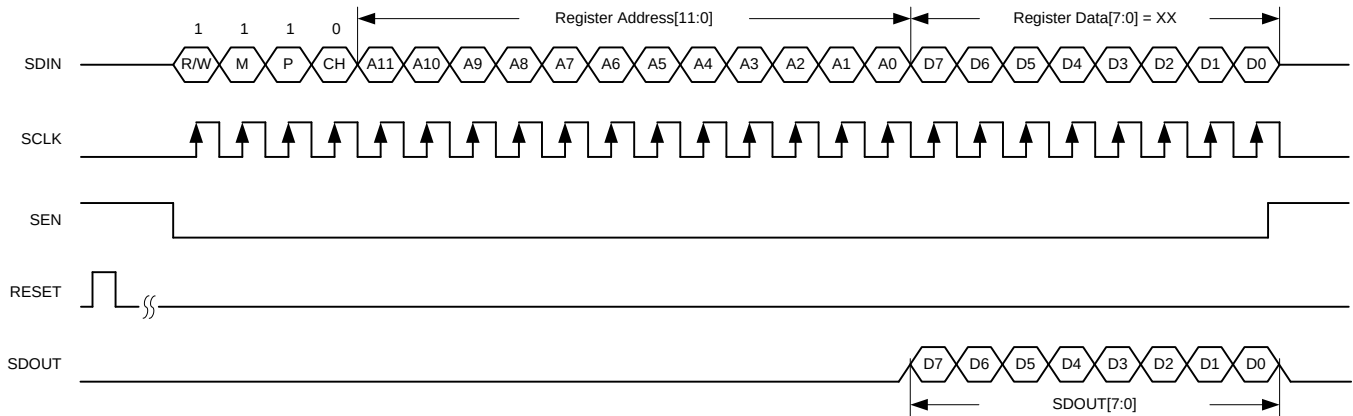

Figure 71. JESD Serial Register Read Timing Diagram
4. Reading back the register content on the SDOOUT pin; see Figure 71. When a page is selected, multiple read backs from the same page can be done.